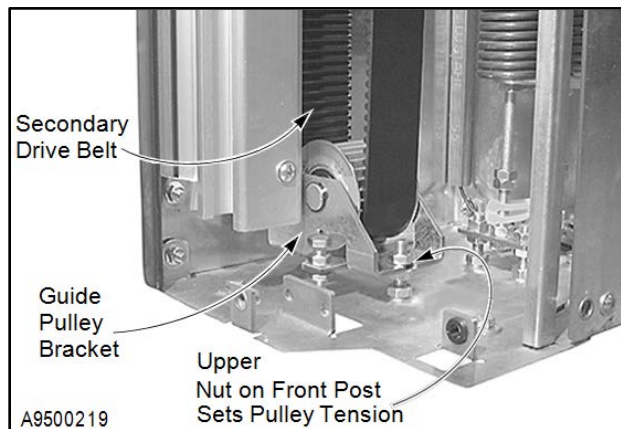

Figure 40
3. Belt tension should just be snug. It is adjusted by repositioning the guide pulley bracket on the front mounting post. Moving the pulley closer to the base plate will increase belt tension. Moving the pulley away from the base plate will decrease belt tension. (See Figure 40.)